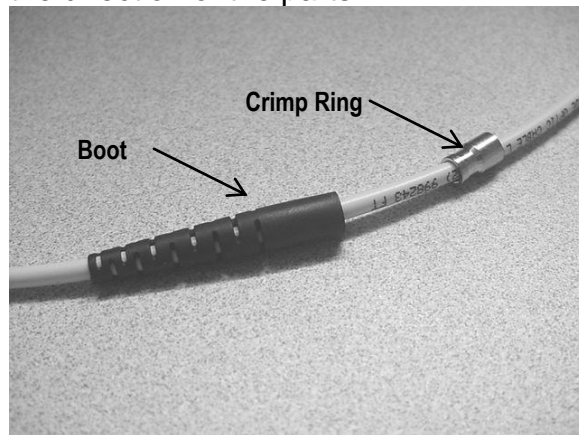

Figure 2
1. Slide components onto the cable in the order shown in Figure 2, giving attention to the direction of the parts.